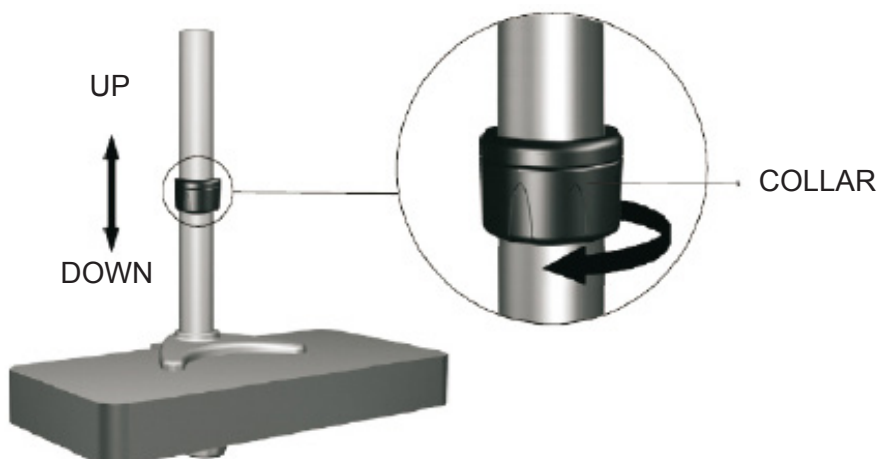

Figure 4
3. To position the Collar at your desired height, you will need to loosen the Collar as shown. Tighten by hand until the Collar is firmly in place (See figure 4)